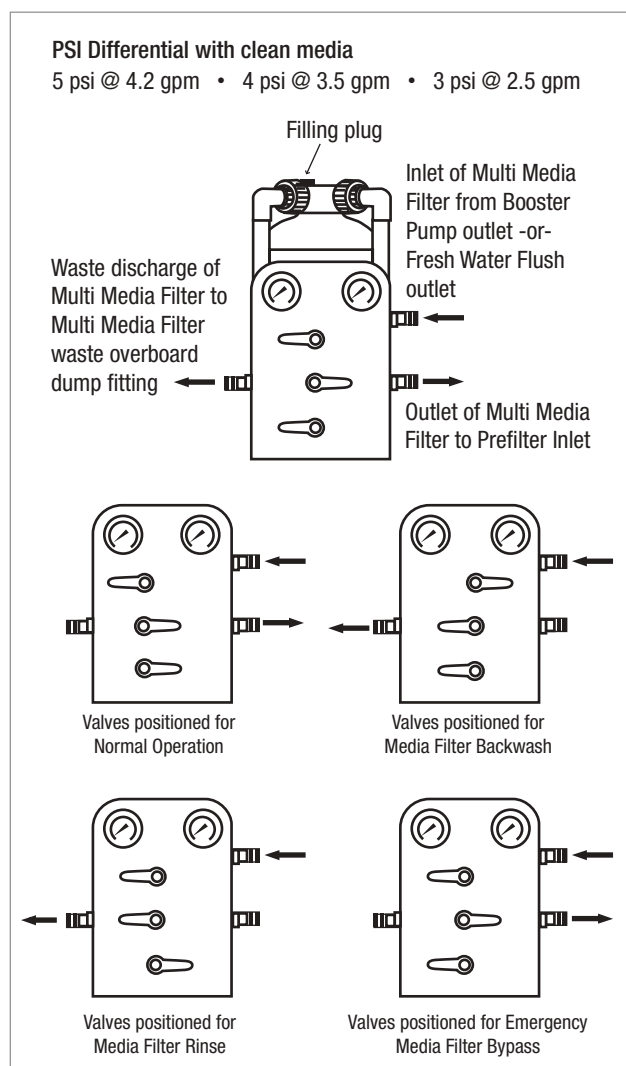

Figure 8a: Valve Positioning of the Multi Media Filter during 4 separate modes of Operation.
- j) Position the Multi Media Filter Valves to Normal Operation. Refer to figure 8a, page 8-7.